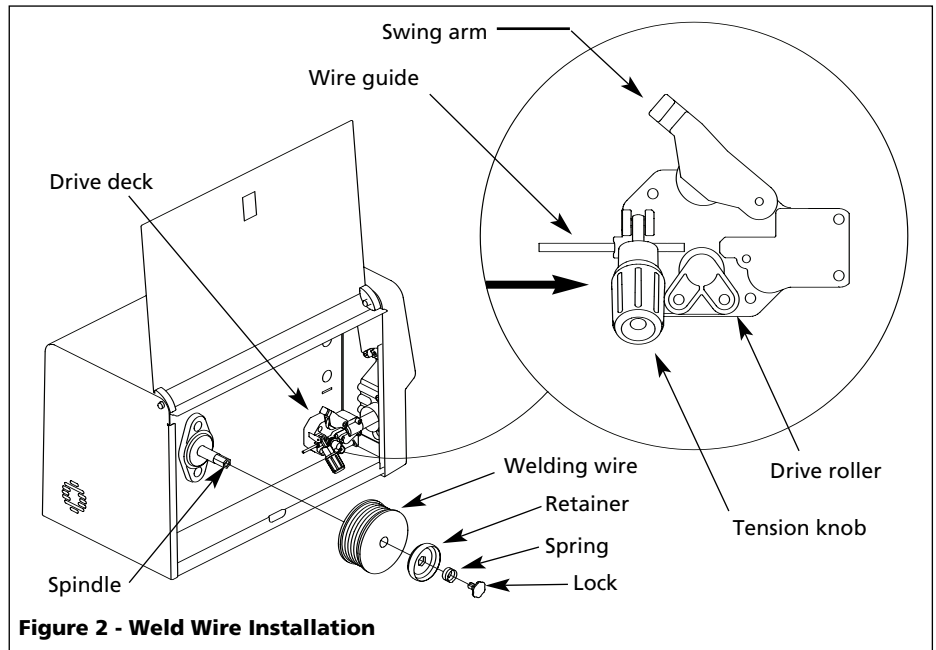

Figure 2 - Weld Wire Installation
- a. Diameter of welding wire matches groove in drive roller on wire feed mechanism (See Figure 2).